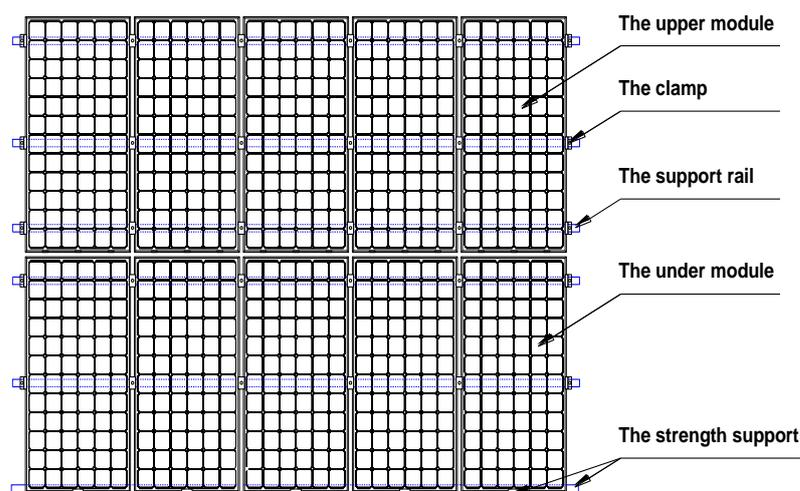

FIG 2 Schematic diagram of reinforcement mounting of module
**6.2.1.3** For the roof system installed in the area with relatively heavy snowfall or snow cover in the meteorological records, the installer shall reinforce the supporting system at the lower frame of the module, in order to prevent the lower frame from being pressed and damaged by the falling snow or freezing of the melted snow. GM solar suggests selecting the support reinforcing mechanism shown in Figure 2.